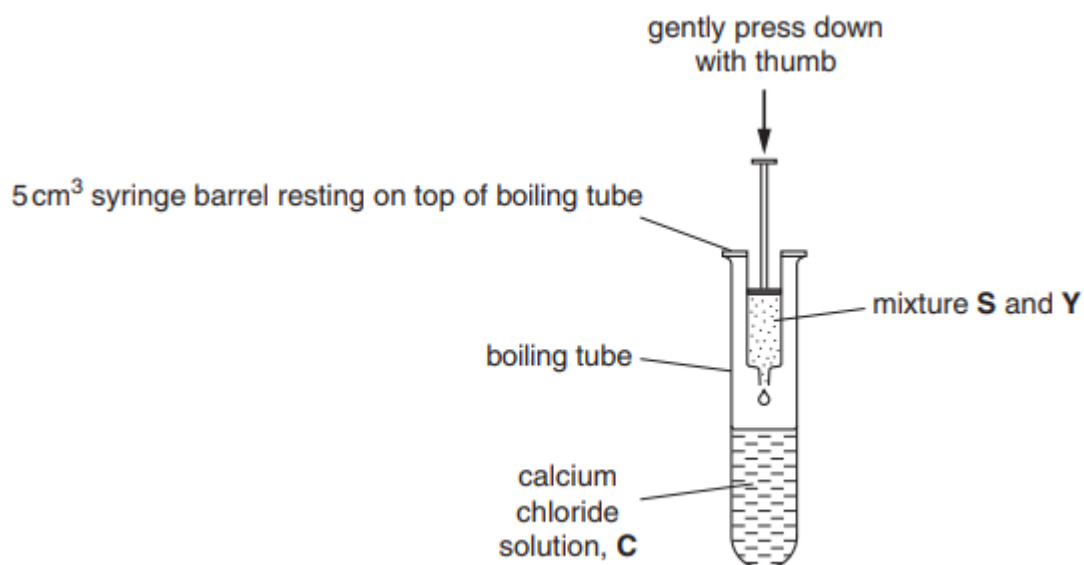

Fig. 1.1
- 5 Suspend the 5 cm³ syringe over the boiling tube containing **C** as shown in Fig. 1.1.